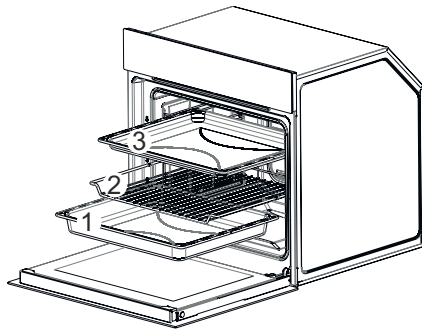

Fig. 20
- Remove the trays and the grill respectively (1-2-3 / Fig. 20).